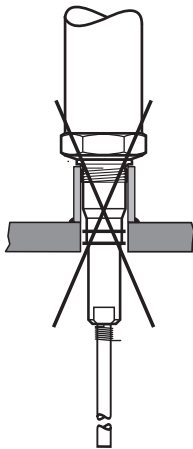

Fig. 6
- Do not screw electrode directly into a screwed socket, **Fig. 6, Fig. 11**.